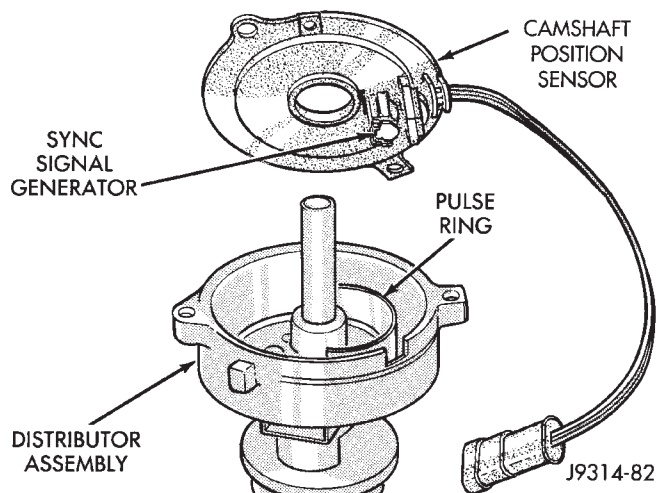

Fig. 32 Camshaft Position Sensor
The camshaft position sensor is located in the distributor (Fig. 32).
- (4) Remove distributor rotor from distributor shaft.
- (5) Lift camshaft position sensor assembly from distributor housing (Fig. 32).